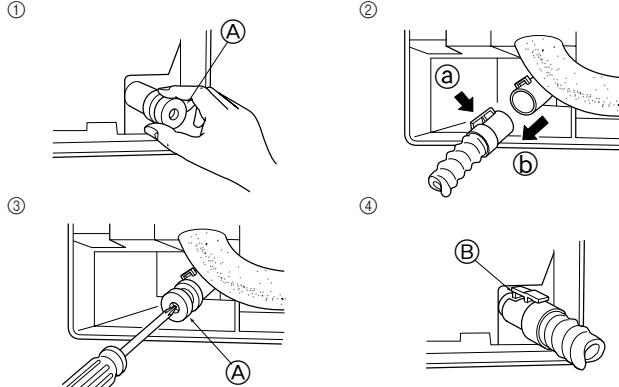

Fig. 5-2
■ PKFY-P12/P15NGMU-E (Fig. 5-2)